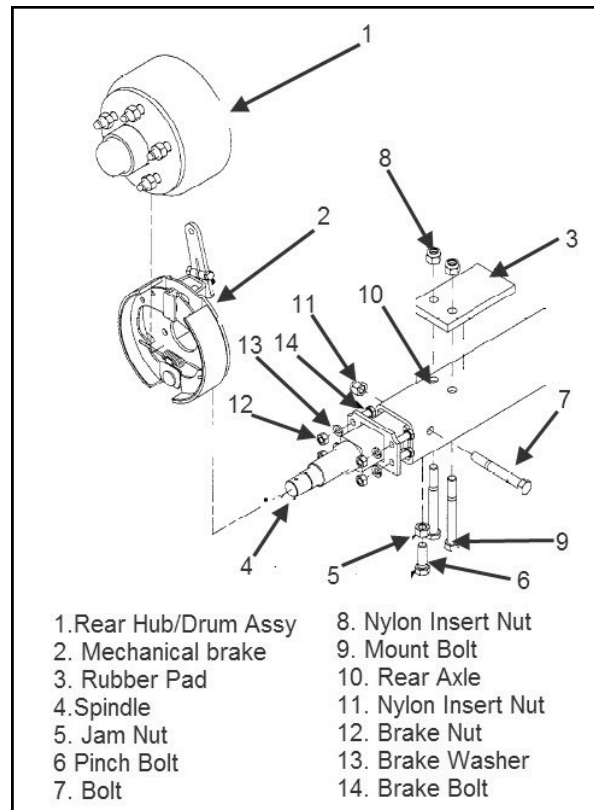

Figure 4-9 Rear Undercarriage Removal
See Figure 4-9 for the following maintenance steps. The rear undercarriage assembly consists of: a wheel assembly, a hub and brake drum assembly (1), a mechanical parking brake assembly (2), a rear spindle (4), and the axle (10).
- Remove brake cable end from arm (5) as described on page ?? Section 4.17, step (a).
- Remove nuts (12), washers (13), and bolts (14) shown in Figure 4-9.
- Remove spring (3).
- Release brake shoes (2) by removing springs (9) from the backing plate (1).
- Remove nut (7), lock washer (8), and bolt (6) to release arm (5).
- Remove brake cam (4) by pulling directly outward.